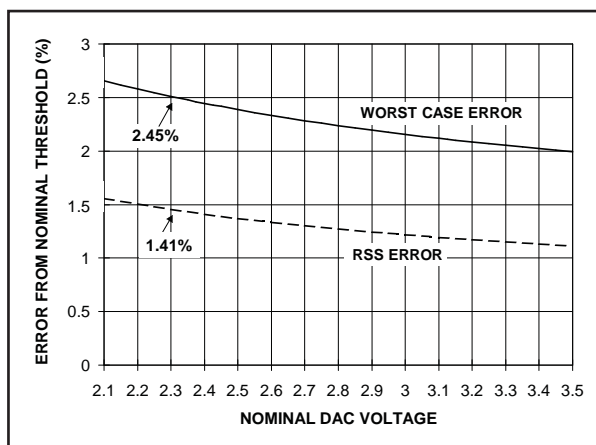

Figure 14. Error Analysis for a Nominal 7.5% OV/UV Threshold Setting - Varies with  $V_{OUT}$
Unitrode has performed a Worst Case and an Root Sum Square (RSS) error analysis including all the abovementioned factors, for a set Ratio of  $R_{DIV}=0.45$  (7.5% OV/UV thresholds), and using 1% resistors, with the results shown in Figure 14.
Step 6: Solve for the thresholds. Use Figure 14 to estimate tolerances.